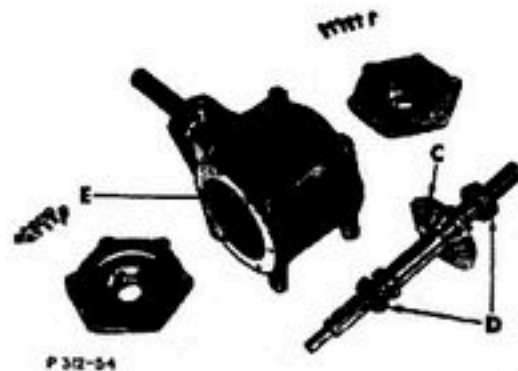

Figure 21
2. Slide gear "C" and bearings "D" (Fig. 21) onto input shaft as shown.